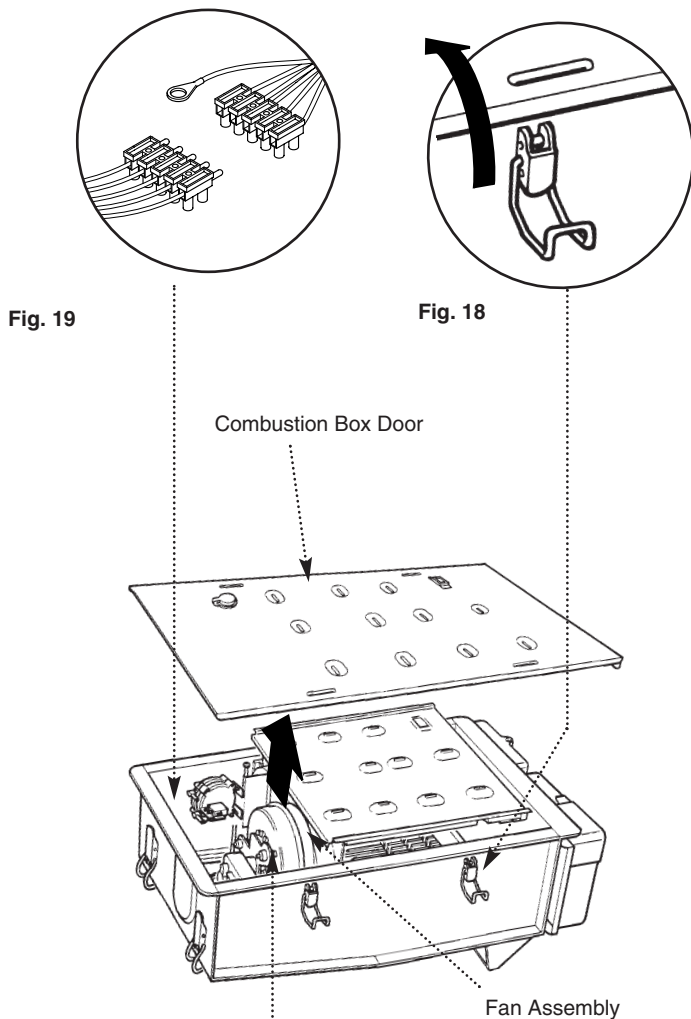

Fig. 17
1. Release the four latches holding the combustion box door (Fig 18). Remove the combustion box door by pulling forward (Fig. 17).
2. Release the 5-pin electrical plug connecting the pressure switch and fan (Fig. 19). Withdraw the fan assembly by pulling forwards from the top edge (Fig. 17).